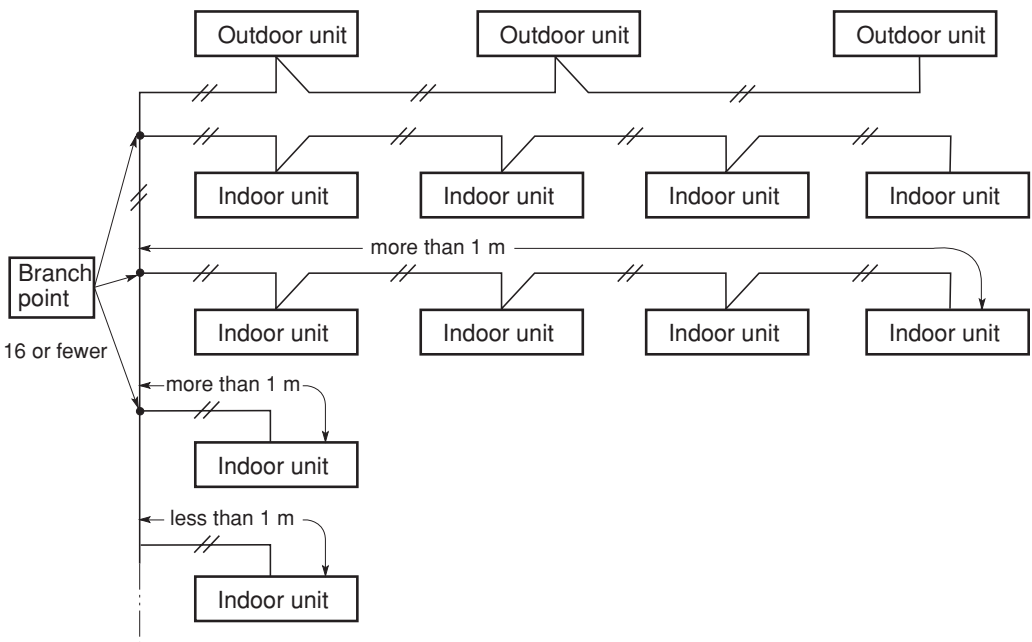

Fig. 3-3
(4) If branching the inter-unit control wiring, the number of branch points should be 16 or fewer. (Branches less than 1 m are not included in the total branch number.) (Fig. 3-3)